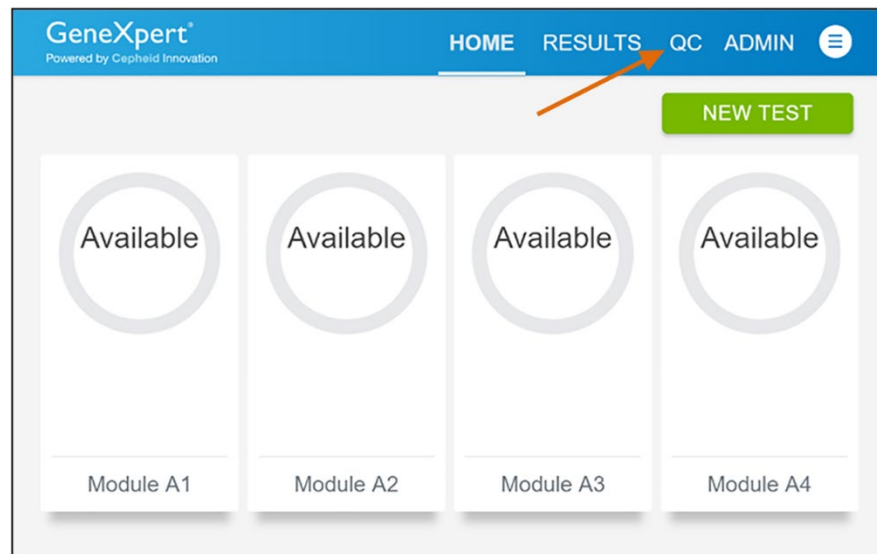

Figure 9. Home Screen
7. Touch the **QC** button on the **HOME** screen (see Figure 9).
11. Touch the **QC** button on the **HOME** screen (see Figure 9).